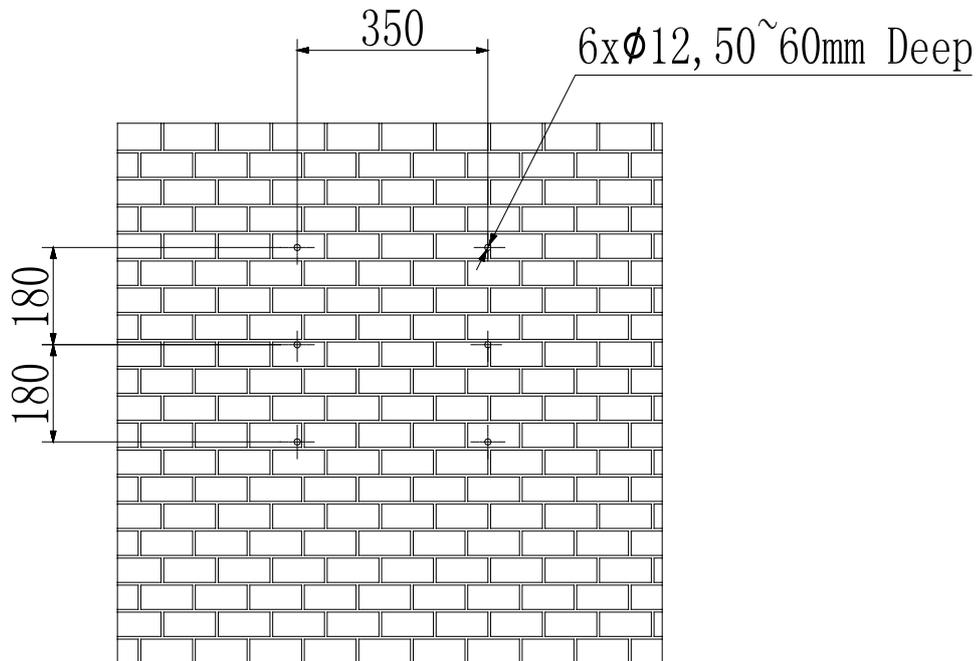

Figure 4-2 Dimensions of drilling holes
Step1: Drill six $\varnothing 12$ holes in the wall according to the dimensions shows in Figure 4-2: